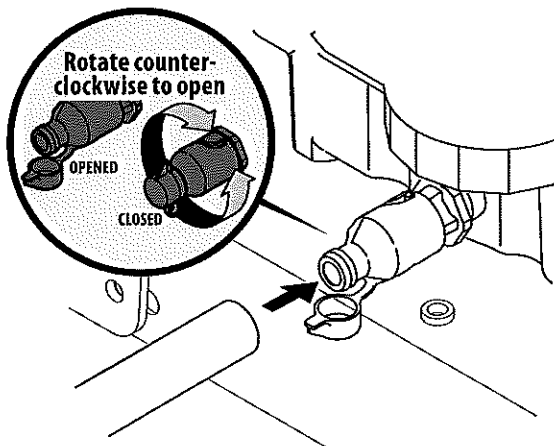

Figure 22
4. Open the protective cap on the end of the oil drain valve to expose the drain port. See Figure 22.